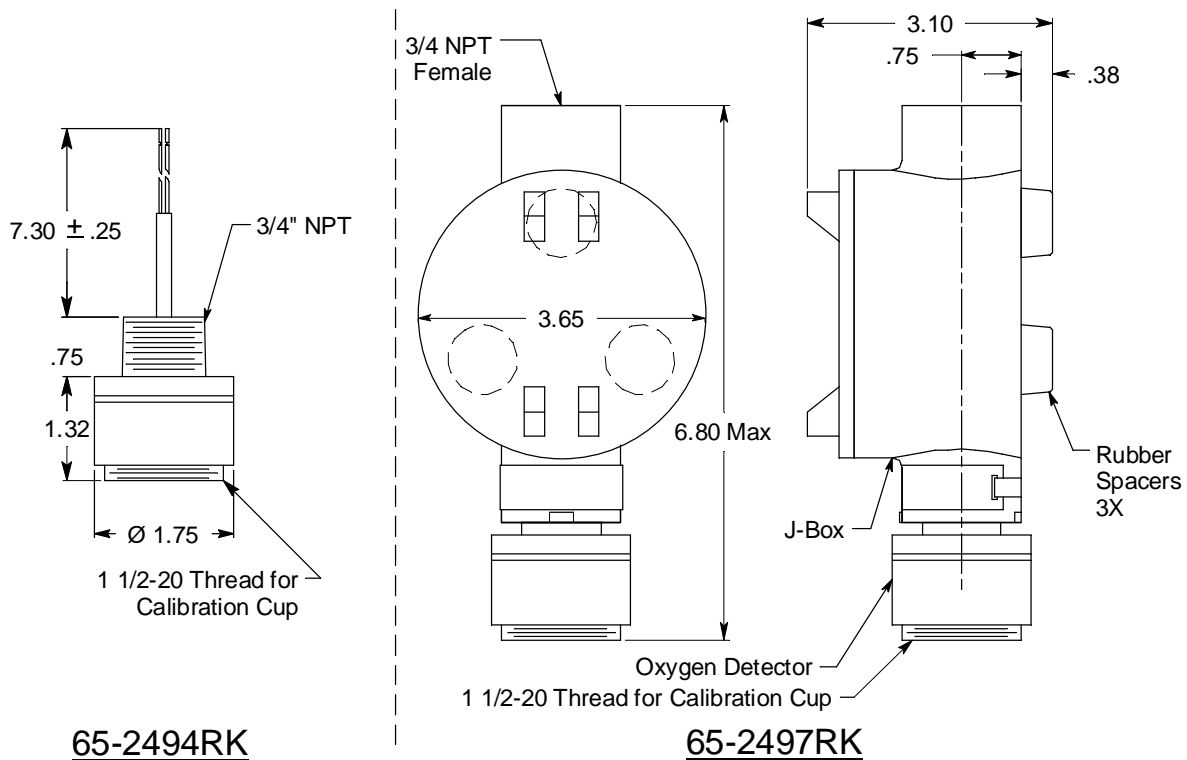

Figure 3: Outline & Mounting Dimensions, 65-2494RK & 65-2497RK
NOTE: If you are installing a 65-2494RK, it does not include a junction box and is usually factory installed in one of a controller's conduit hubs or may be field installed using the 3/4" NPT threads on the end with the wires. The 65-2497RK includes a junction box as shown in Figure 3 below.
2. At the mounting site you select, hang or mount the junction box with the detector facing down (see Figure 3).